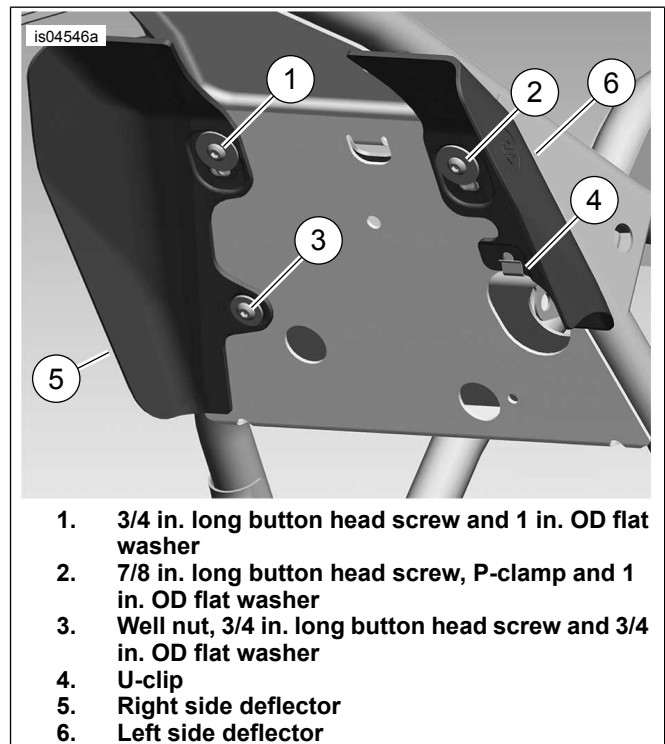

Figure 3. Fastener Locations - View of Frame Rearward of Rear Cylinder, Engine Removed for Clarity
5. See Figure 3. Attach strap assembly to frame using a 3/4 inch length button head screw (1) and the 7/8 inch length button head screw (2) by inserting them from the underside of frame plate. Tighten screws enough to keep strap from moving and prevent it from shifting position during deflector installation.
6. Insert well nut (3) into underside of frame plate. Apply liquid soap to the outer surface of the well nut to ease installation.
7. Remove 3/4 inch screw (1), then position right side deflector as shown and secure with the 3/4 inch screw and 1 inch washer. Do not tighten.
8. Install screw and small washer (3). Do not tighten.
10. Remove left side mounting strap screw (2).
12. See Figure 3. Insert screw through cable clamp (if necessary), washer (2) and left side deflector (6) and install to mounting strap speed nut. Firmly push deflector against outside of rail and tighten screw to 2.8–3.9 N·m (25–35 in-lbs).